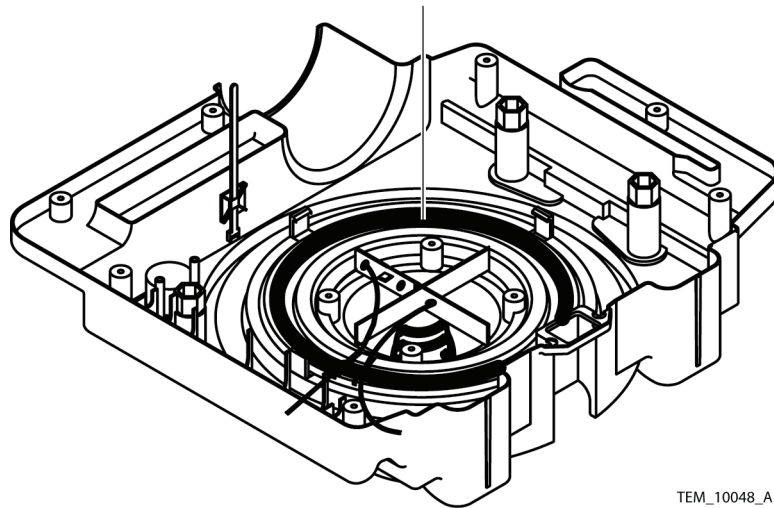

Figure 48. Rubber Gasket
20. Place the rubber gasket into the rear cover assembly with the wire indentations over the heater wires. See Figure 48, item 1.